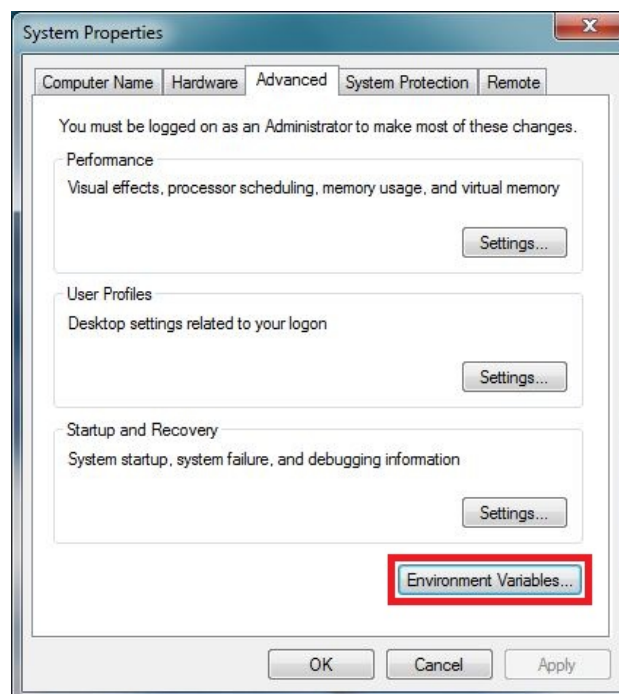

Figure 4-10. System Properties Window
- Click the **Environment Variables...** button in the lower right corner, shown in Figure 4-10.